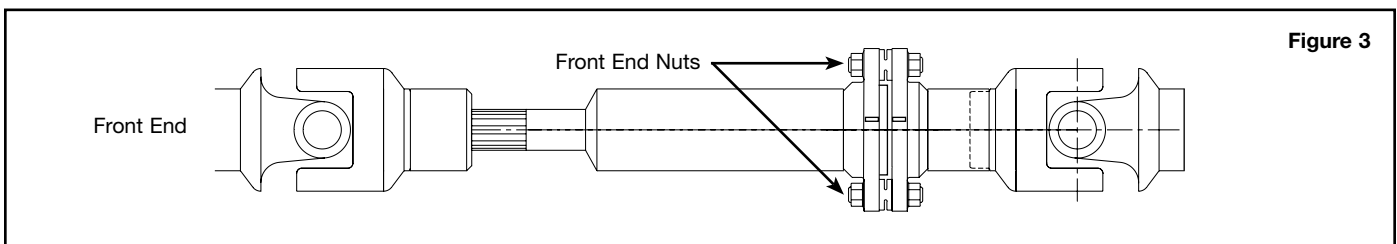

Figure 3
4. Tighten the front end nuts evenly in stages (Figure 3) then torque down all fuse nuts to specifications listed here.